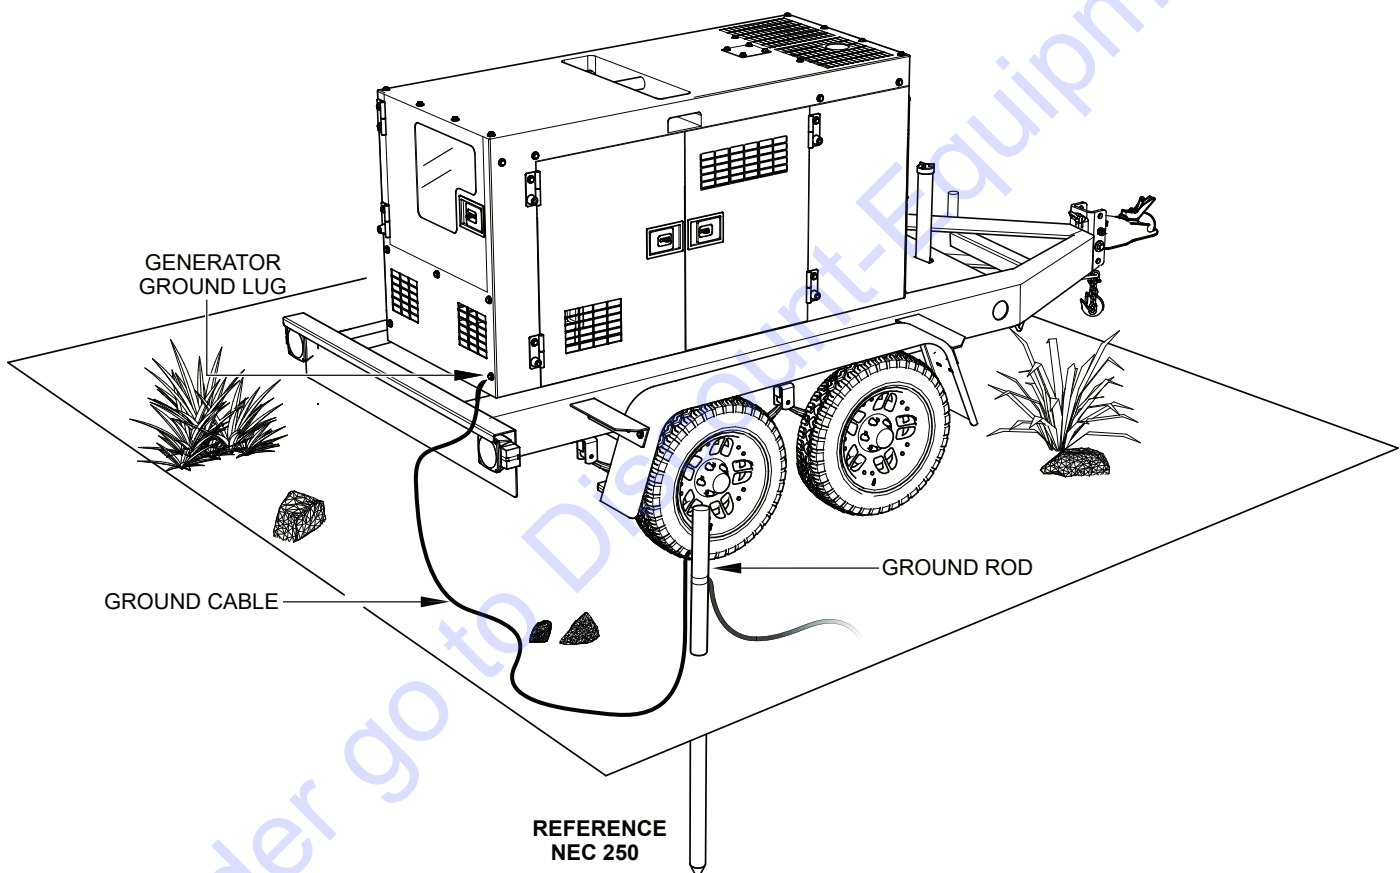

Figure 3. Typical Generator Grounding Application
**EXAMPLE** of how to ground the unit (Figure 3) if the condition of use requires such a device: